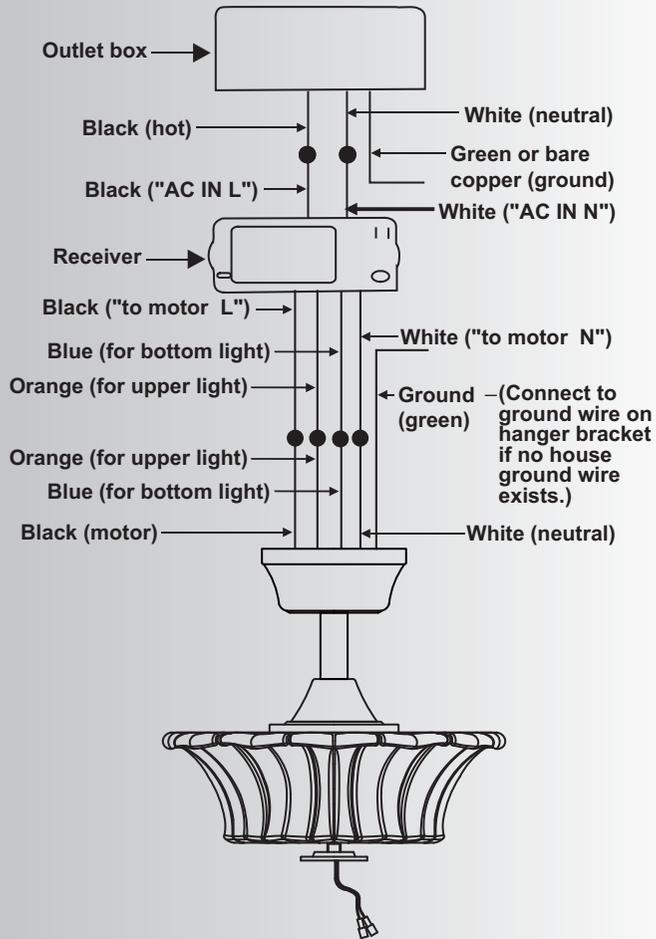

Fig. 14
Step 2. Motor to Receiver Electrical Connections: (Fig. 14) Connect the black wire from the fan to the black wire marked "TO MOTOR L" on the receiver.
Step 3. (Fig. 14) Receiver to House Supply Wires Electrical Connections: Connect the black (hot) wire from the ceiling to the black wire marked "AC in L" from the receiver. Connect the white (neutral) wire from the ceiling to the white wire marked "AC in N" from the Receiver. Secure the wire connections with the plastic wire nuts provided.
Step 4. (Fig. 14) If your outlet box has a ground wire (green or bare copper) connect it to the fan ground wires; otherwise connect the hanging bracket ground wire to the mounting bracket. Secure the wire connection with a plastic nut provided. After connecting the wires, spread them apart so that the green and white wires are on one side of the outlet box and black, orange and blue wires are on the other side. Carefully tuck the wire connections up into the outlet box.